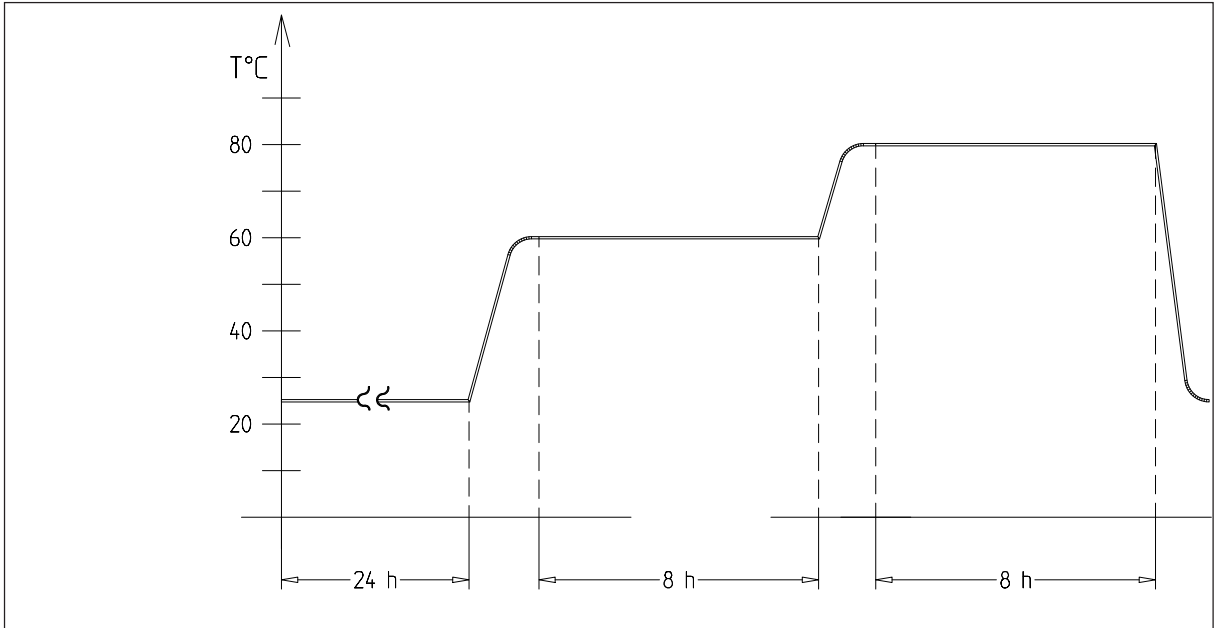

Figure 6 Curing cycle resin L20/SL
After the pre-curing period at room temperature, the repaired area has to be cured according the temperature cycle as shown on Figure 6.
**After the pre-curing period at room temperature, the repaired area has to be cured according the temperature cycle as shown on Figure 6.**